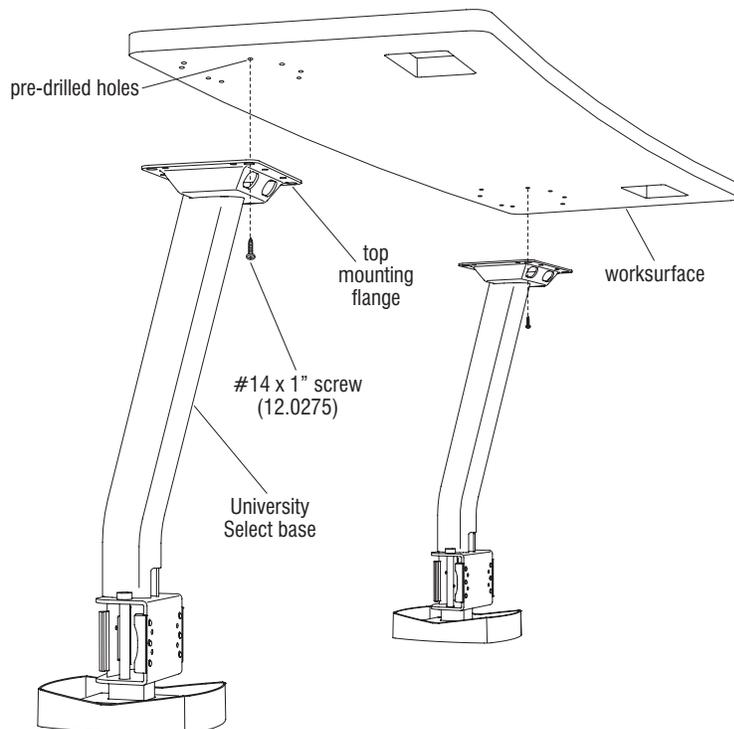

Figure 5
11. For University worksurfaces with no power, carefully position the worksurface(s) onto the University Select bases, at the proper location according to the space-planning layout. Fasten each top mounting flange of the base to the worksurface with **one** #14 x 1” screw provided and torque to 100 in/lbs. Make sure to pre-drill holes to 1/2” depth to avoid piercing through worksurface (Figure 5).
#14 x 1” screw provided and torque to 100 in/lbs (Figure 5).
of the base to the worksurface with **one** #14 x 1” screw provided and torque to 100 in/lbs. Make sure to pre-drill holes to 1/2” depth to avoid piercing through worksurface (Figure 5).